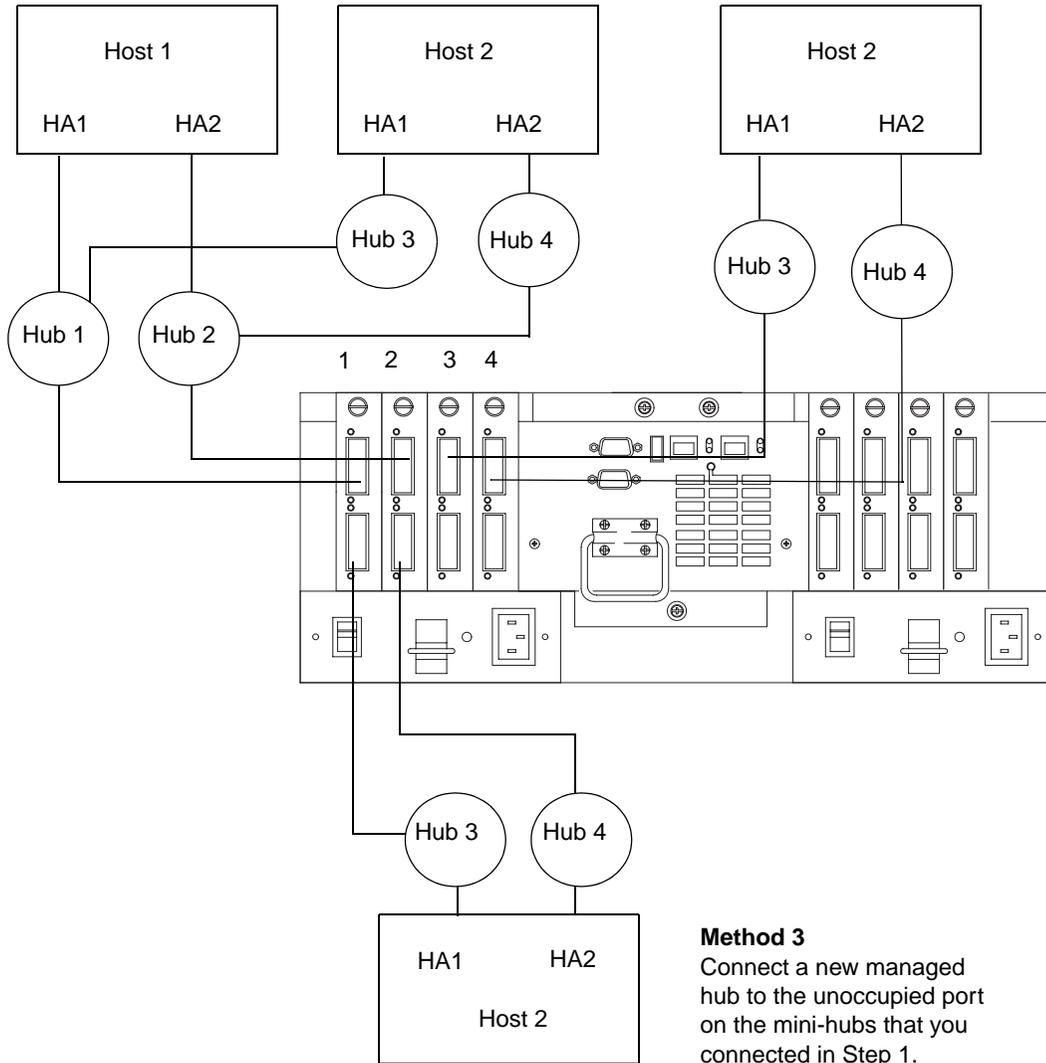

Figure 25. Using managed hubs to connect multiple hosts
- 2 Connect additional hosts to the controller unit, using and method shown in Figure 25 on page 38.